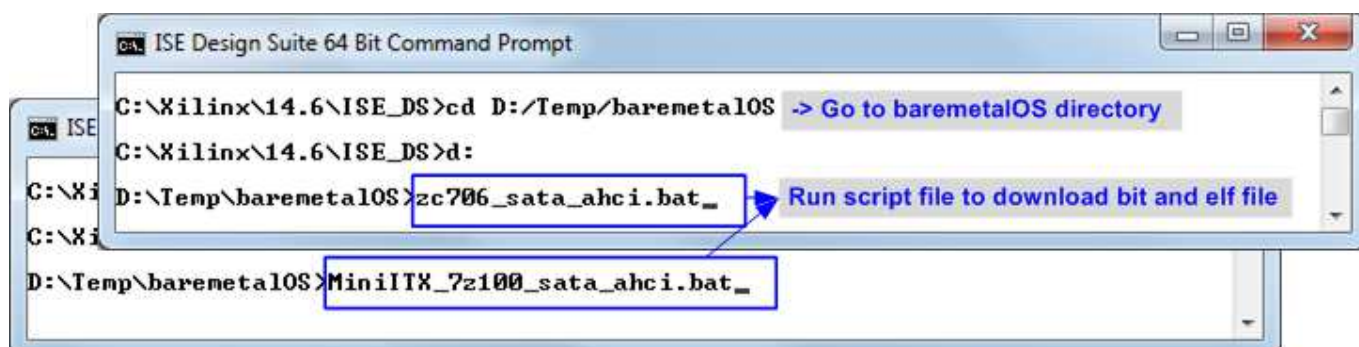
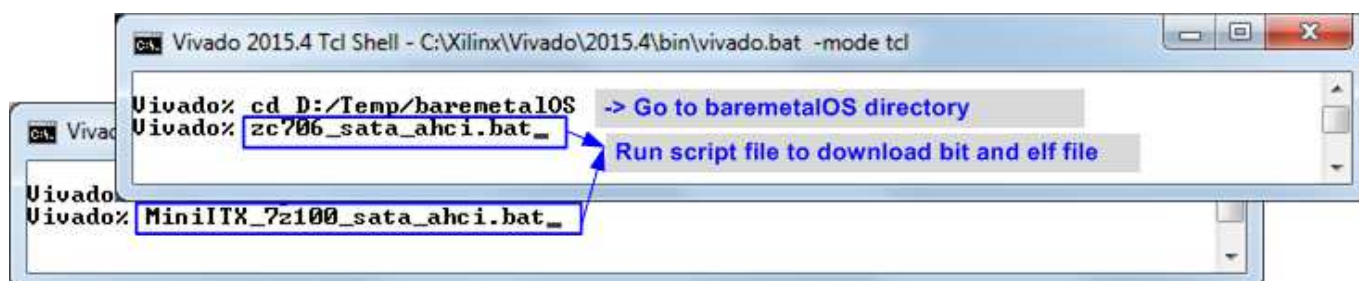

Figure 2-9 Command script for download demo file by ISE tool
Figure 2-10 Command script for download demo file by Vivado tool
- 9) For Zynq Mini-ITX (Z100)/ZC706 board, open ISE command prompt or Vivado TCL shell, change current directory to baremetalOS folder, and run MiniITX_7z100/zc706_sata_ahci.bat, as shown in Figure 2-9 and Figure 2-10.